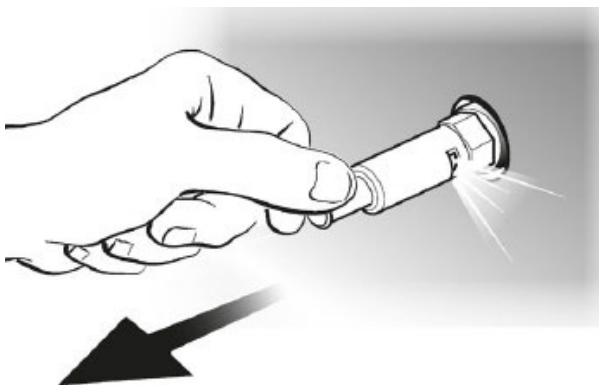

Fig. 14: Safety valve, Version B
Step 1: Remove the oil filler plug or dipstick, unscrew the oil drain plug (Pos. A, Fig. 14) and collect the used oil in a suitable container.